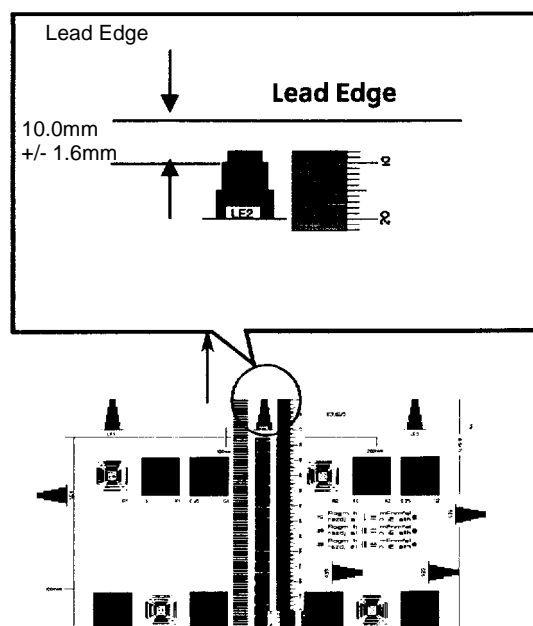

Figure 1 Checking IIT Lead Registration
2. On the 2nd copy, check that the distance from the lead edge to the top of Step 3 on the LE2 scale is 10.0mm +/- 1.6mm (Figure 1).